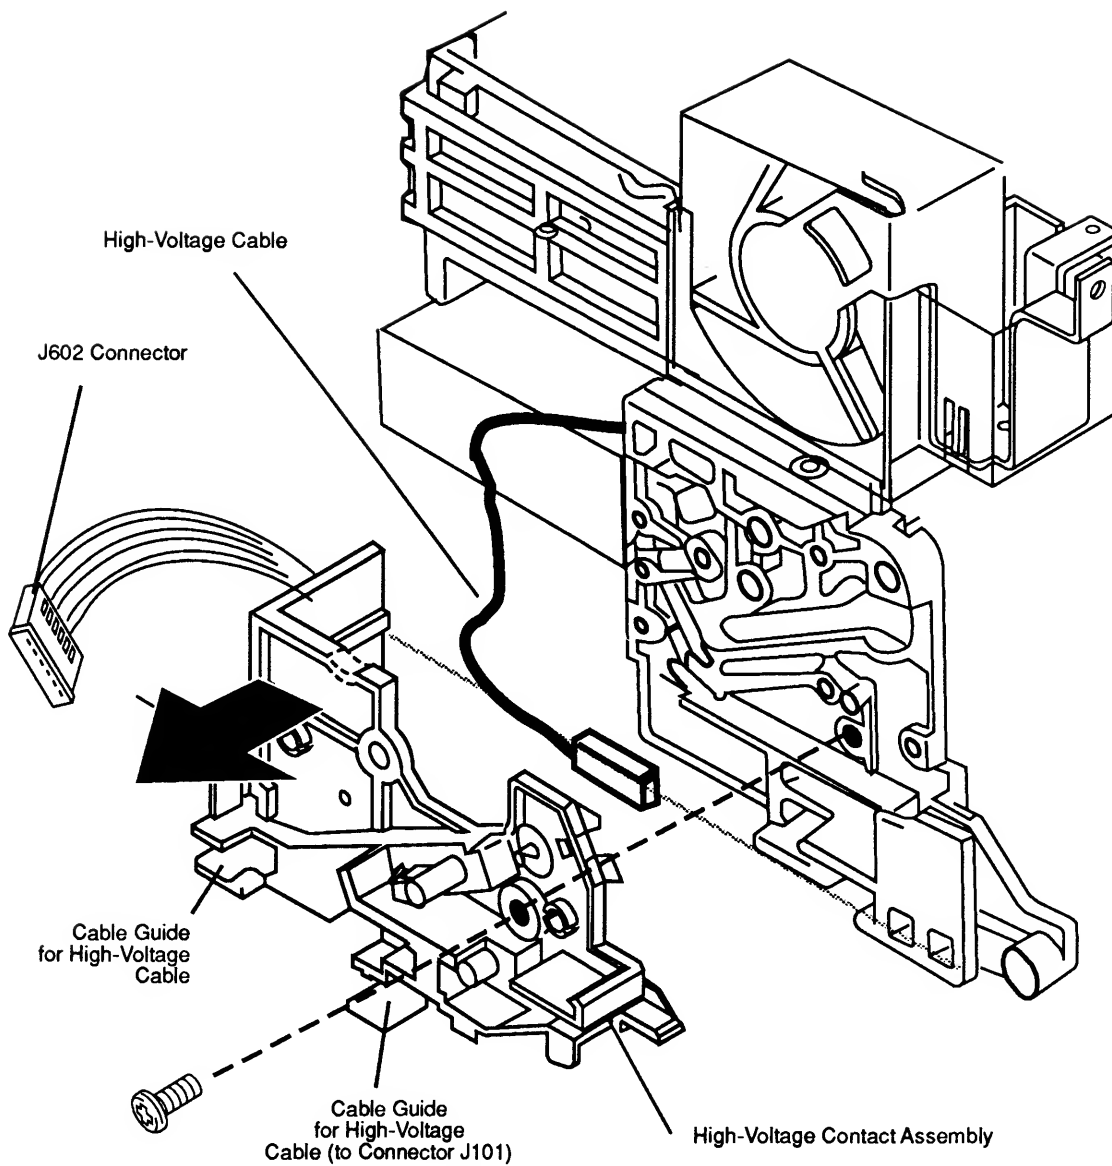

Figure 2-42 High-Voltage Contact Assembly
3. Pull the plastic tray containing the high-voltage power supply from under the scanner assembly and disconnect connector J602 from the high-voltage power supply **(Figure 2-42)**.
4. Disconnect the black, high-voltage cable connecting the high-voltage power supply to the high-voltage contact assembly **(Figure 2-42)**.
5. Remove the silver-colored screw that fastens the high-voltage contact assembly to the printer chassis **(Figure 2-42)**.
6. Remove the power supply cable (connector J101) from the cable guide on the high-voltage contact assembly. Lift the high-voltage contact assembly out of the printer **(Figure 2-42)**.